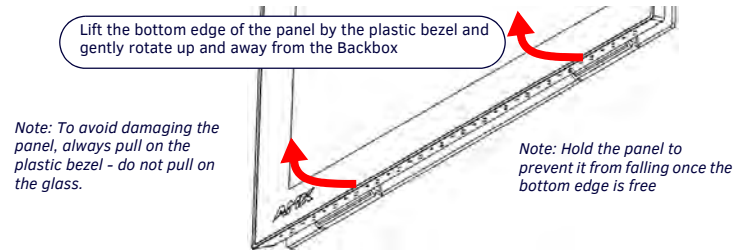

FIG. 7 ACB-2107/BACKBOX ASSEMBLY (RELEASING THE BOTTOM EDGE OF THE PANEL)
- Grasp the bottom of the panel and pull gently outward until the side of the panel is free of the snap. Use your other hand to stabilize the front of the touch panel (FIG. 7):